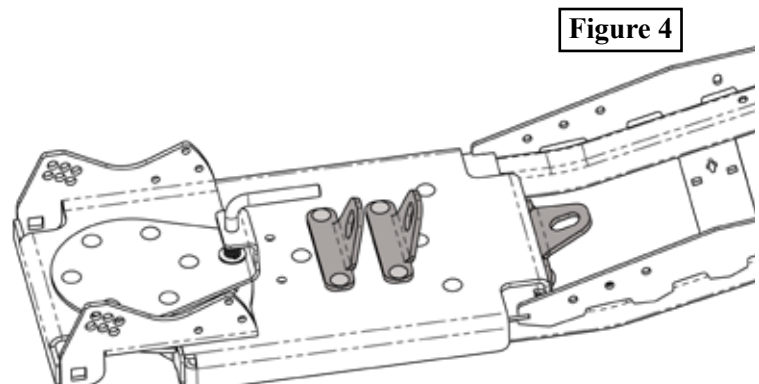

Figure 4
5. The lift hook can be relocated if it gives a better lift angle from your machine, 3 options are shown in **Figure 4**.
"Figure 4 Blade Install"